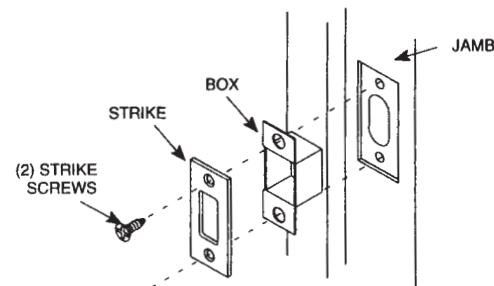

Figure 9-2
- C. See Figure 9-2. Chisel out for box and attach with two (2) strike screws.